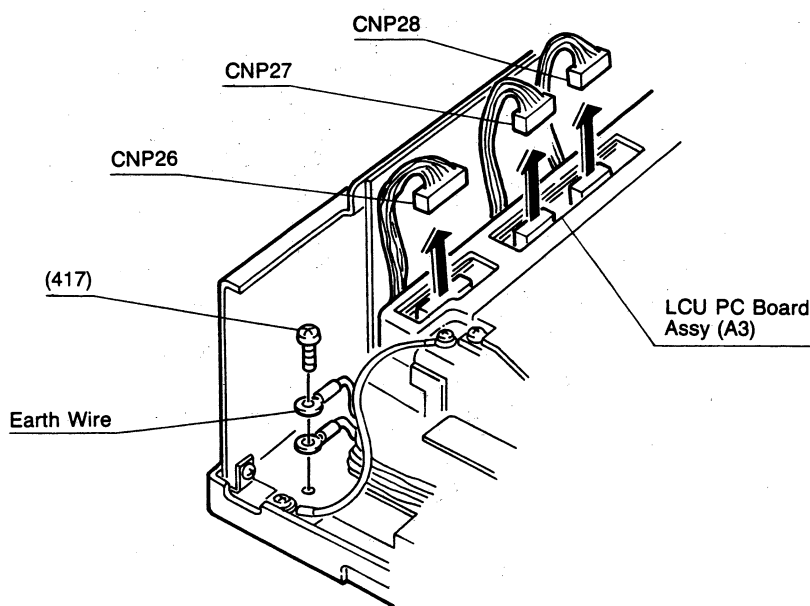

Figure 4.3.51
- (1) Open the receiving unit.
- (2) Remove the covers. (See paragraph 4.3.1.1.)
- (3) Remove two screws (408).
- (4) Remove the screw (417). (See Figure 4.3.51)
- (5) Unplug the connectors CNP2, CNP3 and CNP26; and disconnect the ground terminal.
- (6) Remove the power supply unit (POW1).
- (7) To reinstall, reverse the removal procedures.
- (2) Remove the Upper cover and then disconnect CNP26. (See Figure 4.3.51.)
- (3) Turn the machine over and remove the four screws (416) and the earth screw (421) to remove bottom plate (131).
- (4) Remove two plastic rivets (414); and then the two PC boards are disengaged.
- (5) Unplug the connectors CNP10, 11, 12, 13, 14, 15, 16, 18, 20, 21, and 22 from the SC PC board assy (A2).
- (6) Remove two plastic rivets (414) on the LCU PC board assy (A3) and unplug the connector CNP19 to separate the two PC boards.